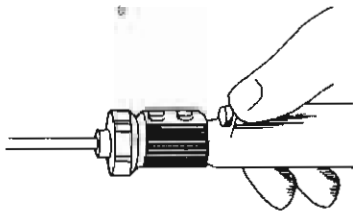

Figure 2-16. Aspiration control.
i. Set the aspiration control (fig 2-16) lever on the handpiece between the minimum (MIN) or maximum (MAX) for variable control.